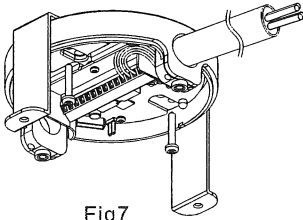

Fig7
- (3) After completing the "2. System Setup", mount the VFM cover to VFM bracket using the screws provided with VFM (Fig. 7).
- (4) For best results, use the Caddy Snap On Fixture / Box Hanger(512A)